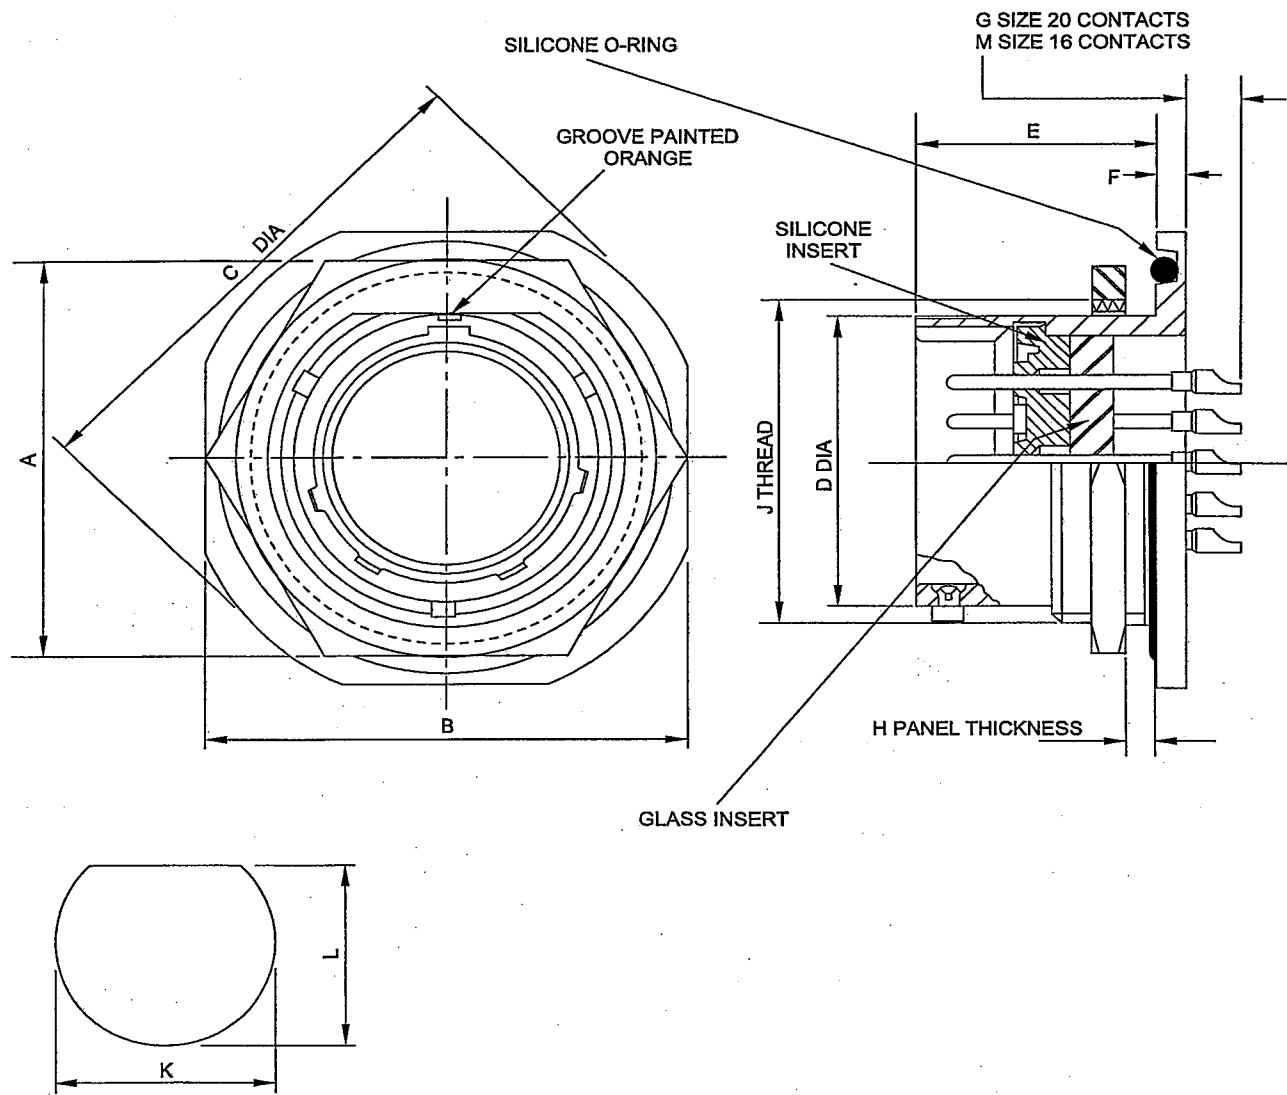
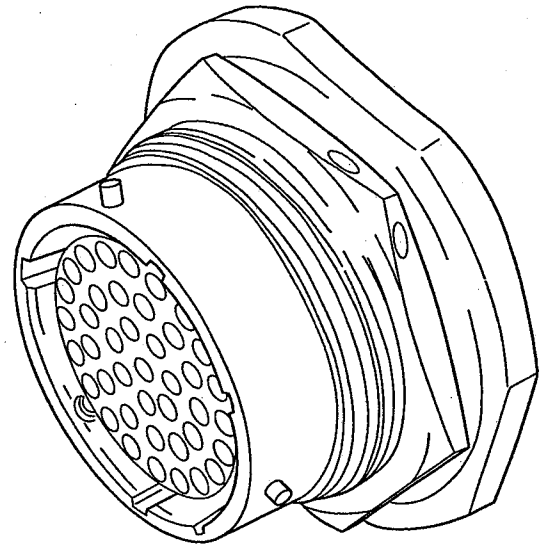

Fig 22 467 Jam nut receptacle, dimensions
Fig 23 467 Jam nut receptacle, general view
- 16.1 The 467H jam nut receptacle details are given in Fig 22 and Table 13. It conforms to MS3114 specification (Fig 23).